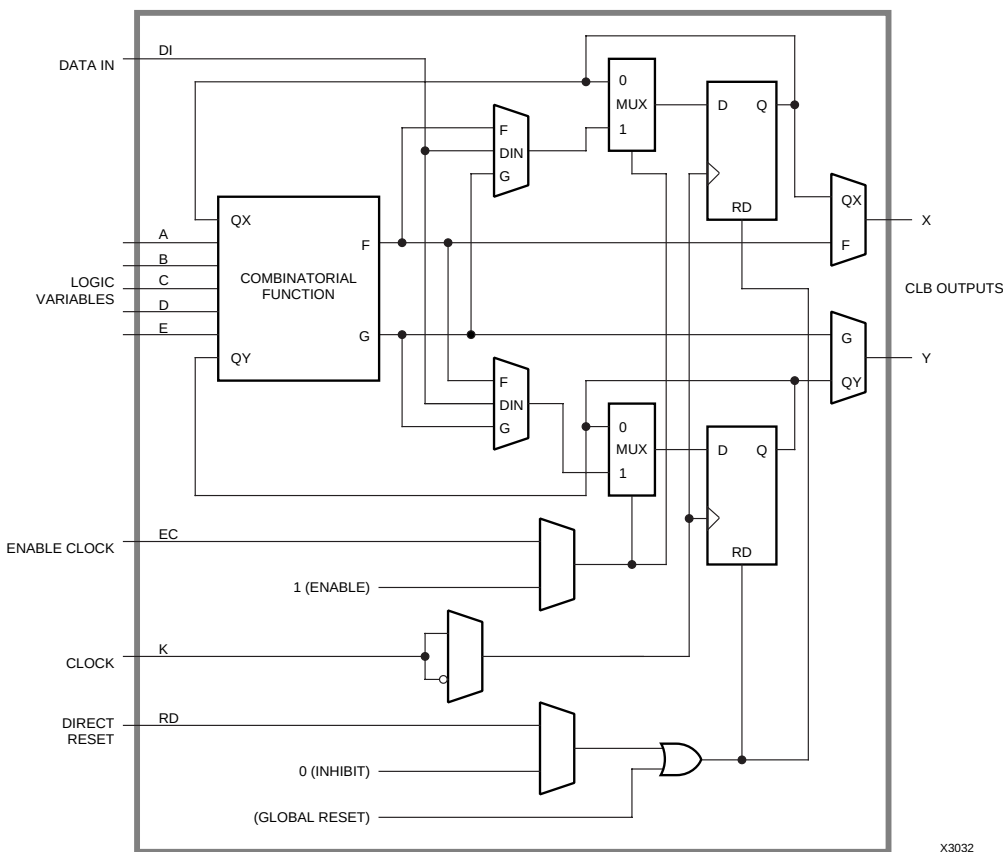

**Figure 5: Configurable Logic Block.**
Each CLB has a combinatorial logic section, two flip-flops, and an internal control section. See Figure 5. There are: five logic inputs (A, B, C, D and E); a common clock input (K); an asynchronous direct RESET input (RD); and an enable clock (EC). All may be driven from the interconnect